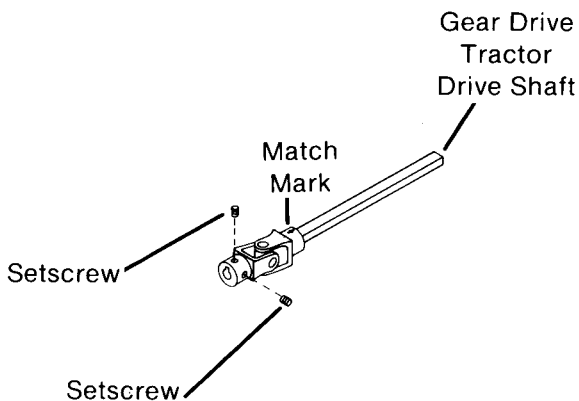

FIG. 51
- B. Loosen two setscrews through rear drive shaft universal joint. (Fig. 51)
NOTE: Drive shaft is a balanced assembly and **must** be reassembled the same way it was removed. Match marks (arrows) are stamped onto both front and rear universal joints, if chalk marks are not made, to insure proper reassembly. (Fig. 51)